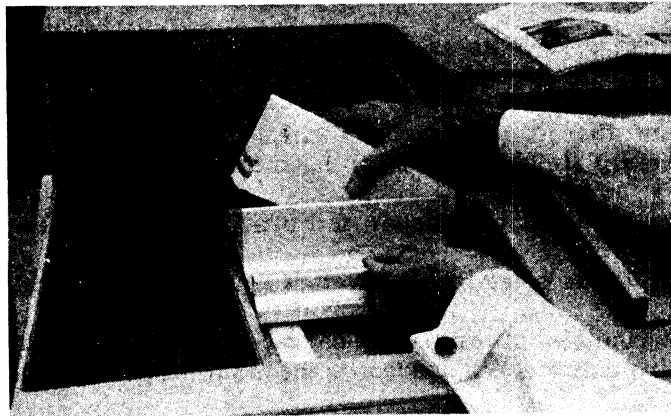

Figure 12. Adding Cards to Empty Hopper
4. Pull the feed plate in the input hopper far enough to allow the card deck to be placed gently in the hopper below the plate (Figure 12).